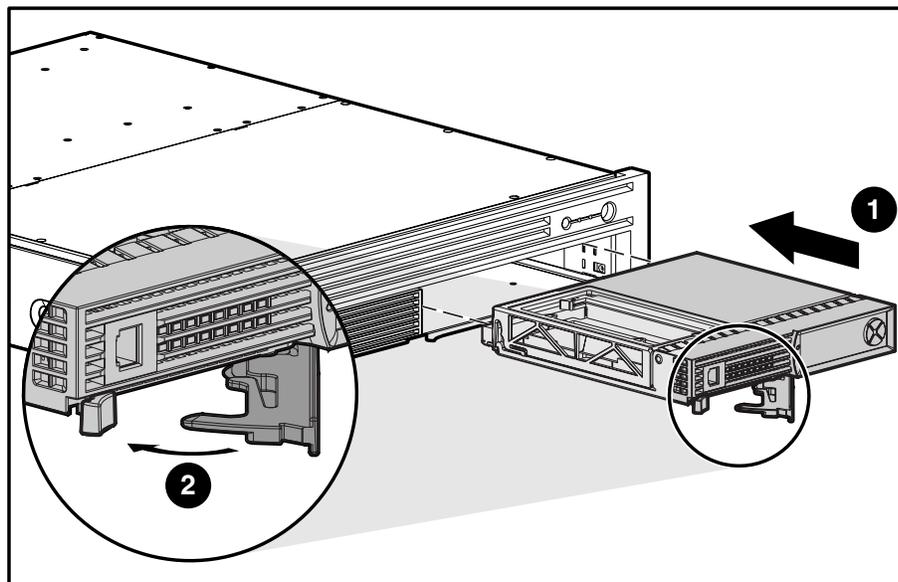

Figure 8: Installing the controller
8. Push the controller in as far as it will go **1**; press the latch inward until it is flush against the front panel **2**. See Figure 8.